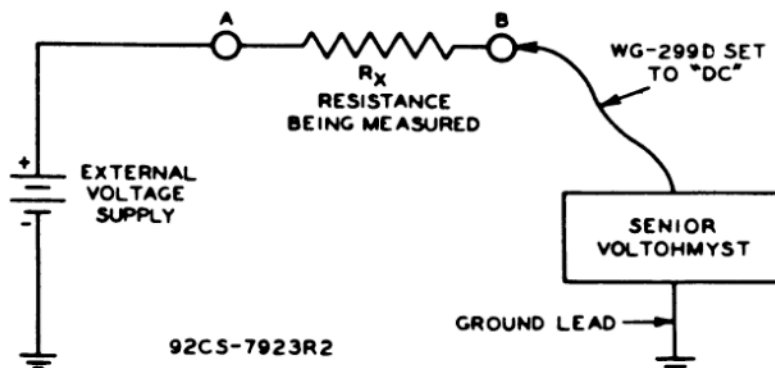

Figure 2. Circuit for resistance measurements above
The leakage resistance of small mica and paper capacitors is usually above 1000 megohms. The circuit shown in Figure 2 can be used to measure resistance values above 1000 megohms. An external dc-voltage source between 20 and 500 volts is utilized to obtain a measurable pointer deflection. Make circuit connections as shown in Figure 2 and proceed as follows:
**EXAMPLE:** The value of an unknown resistance is to be determined with the circuit of Figure 2. An external voltage of 500 volts is applied. The WV-98C measures 2.5 volts at "B", and 500 volts at "A". Then,
**Insulation-Resistance Measurements.** Current leakage through the dielectric of capacitors and insulation of coils, transformers, cables, and other components can be measured with the WV-98C in terms of resistance. Values of leakage resistance above 1000 megohms can be measured with the circuit shown in Figure 2.